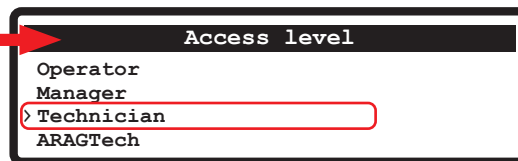

Fig. 41
- Select the user level for which you want to delete the PIN (symbol > Fig. 41) and press and hold the button ▶.